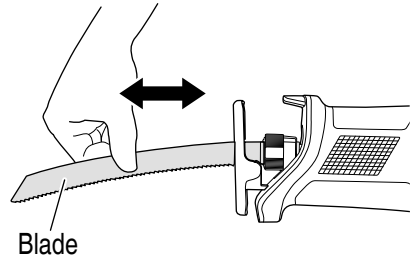

Fig. 10
- (3) When you release your hand from the blade holder, the blade is fixed in place.
- (4) Pull the back of the saw blade two or three times by hand and check that the blade is securely mounted. (Fig. 10)